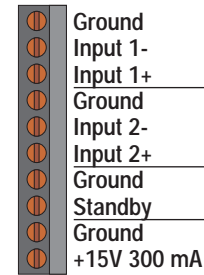

Figure 3. The I/O interface terminal
- The I/O interface terminal strip (Figure 3)